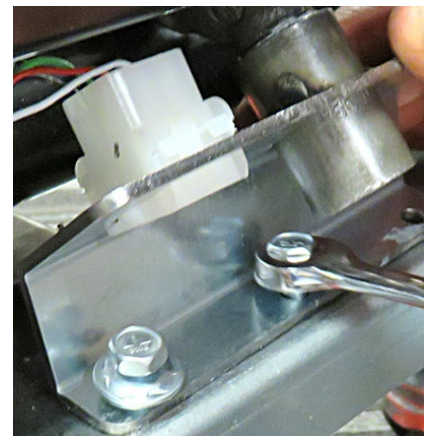

Figure 32
35. Align the dispose outlet assembly to the pre-drilled holes and attach using 1/4"-20 self tapping bolts (see Figure 32).